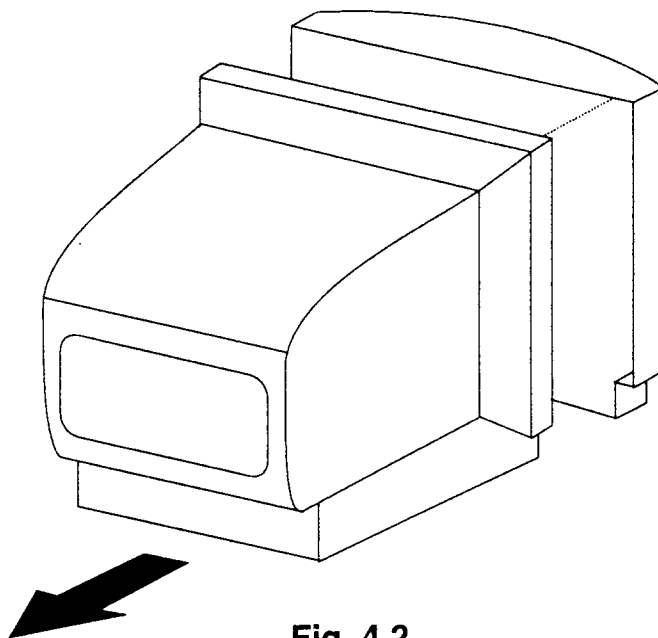

Fig. 4.2
- Remove the rear cover (4 screws), see **Fig 4.2**.